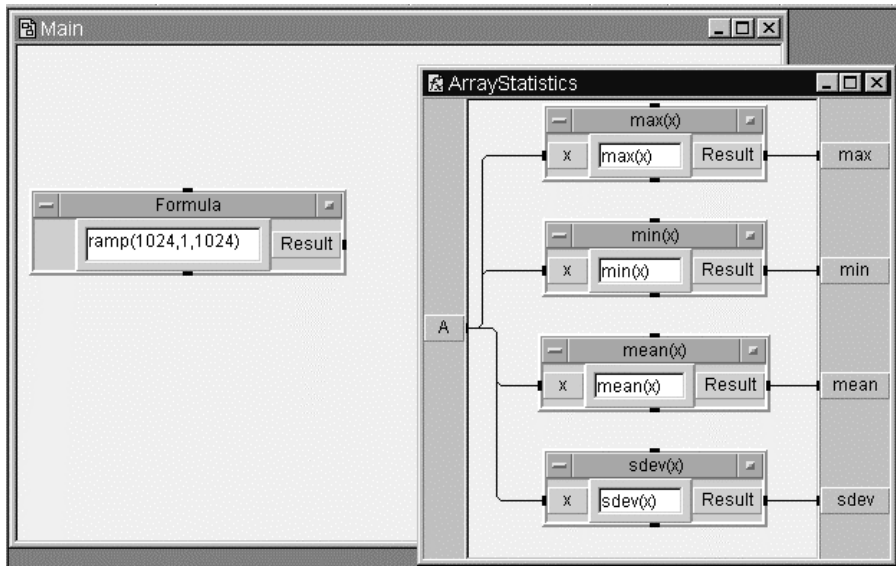

Figure 11.2. The Main and ArrayStatistics windows
13. Make the ArrayStatistics window smaller so you can see both windows. See Figure 11.2.